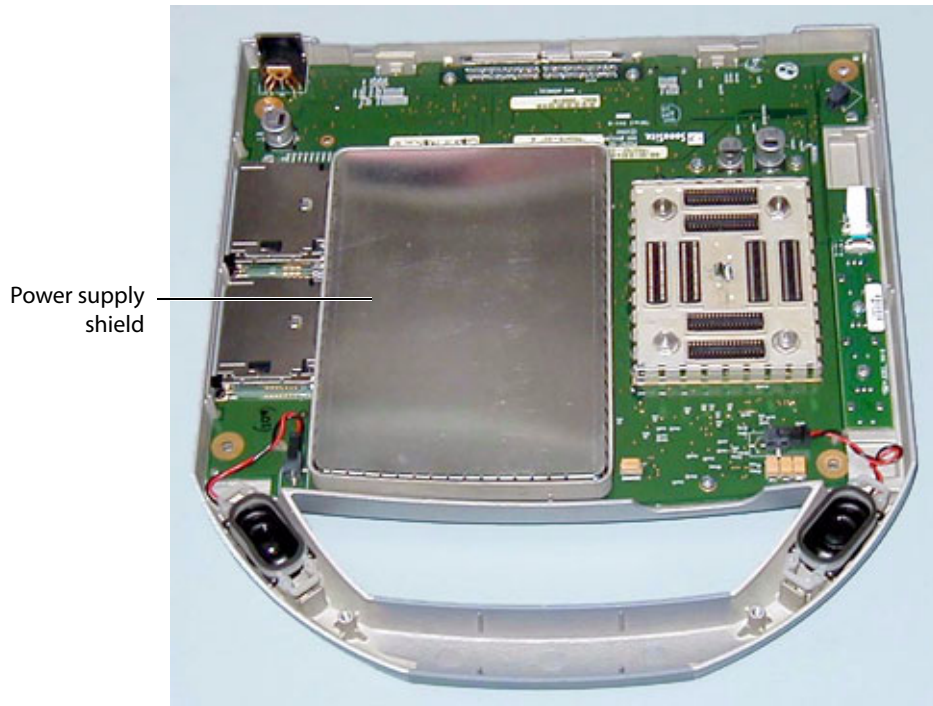

Figure 7.9 Power Supply Shield
- 1 Gently pry the shield from the power supply and set it aside. This part will be used in reassembly. Note that the shield fits only one way. See Figure 7.9.